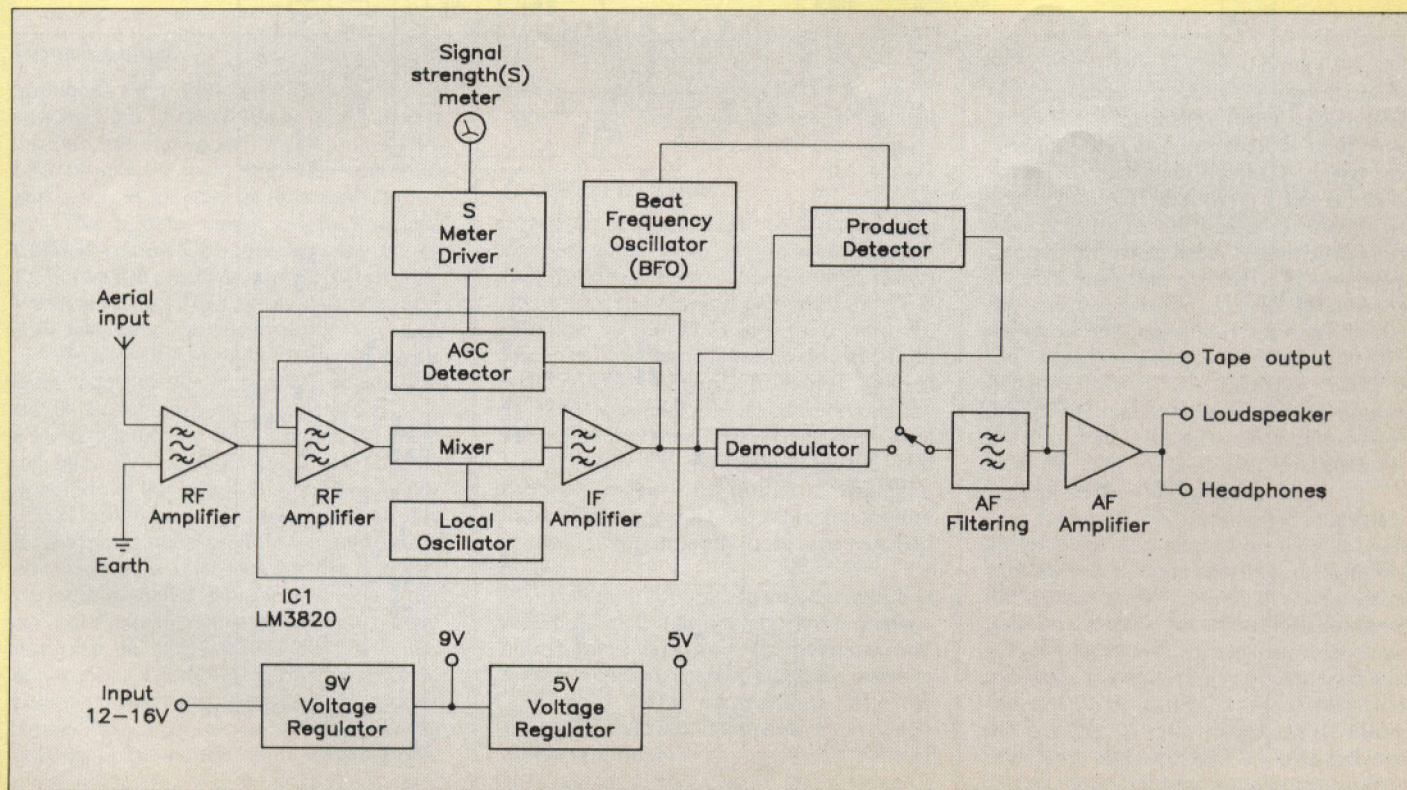

Figure 1. 160m receiver block diagram.
In order to illustrate the operation of the receiver, a block diagram is given in Figure 1 showing the basic stages of the circuit. Referring to Figure 2, it may be seen that the receiver is based around the LM3820 AM radio sub-system IC (IC1). This IC forms the basis of an AM superheterodyne receiver, containing the mixer and most of the necessary RF and IF amplifiers. Signals coming in from the aerial are initially filtered by T1/C6 and amplified by TR1 which is a dual gate FET. The signal is applied to gate 1 of the transistor and gate 2 is used to control the gain of the stage via RF gain control RV1. The amplified output from TR1 is filtered by C4/T2 and fed to the RF amplifier input of IC1. After further RF amplification, the signal is fed to the internal mixer, where it is mixed with the local oscillator. Variable capacitor VC1, T7 and associated circuitry determine the operating frequency of the local oscillator. The output from the mixer contains a wide range of frequencies and it is necessary to separate signals of the required intermediate frequency (IF) from the unwanted signals which are present. IF transformers T3, T4 and T5 together with associated components perform the IF filtering and the filtered